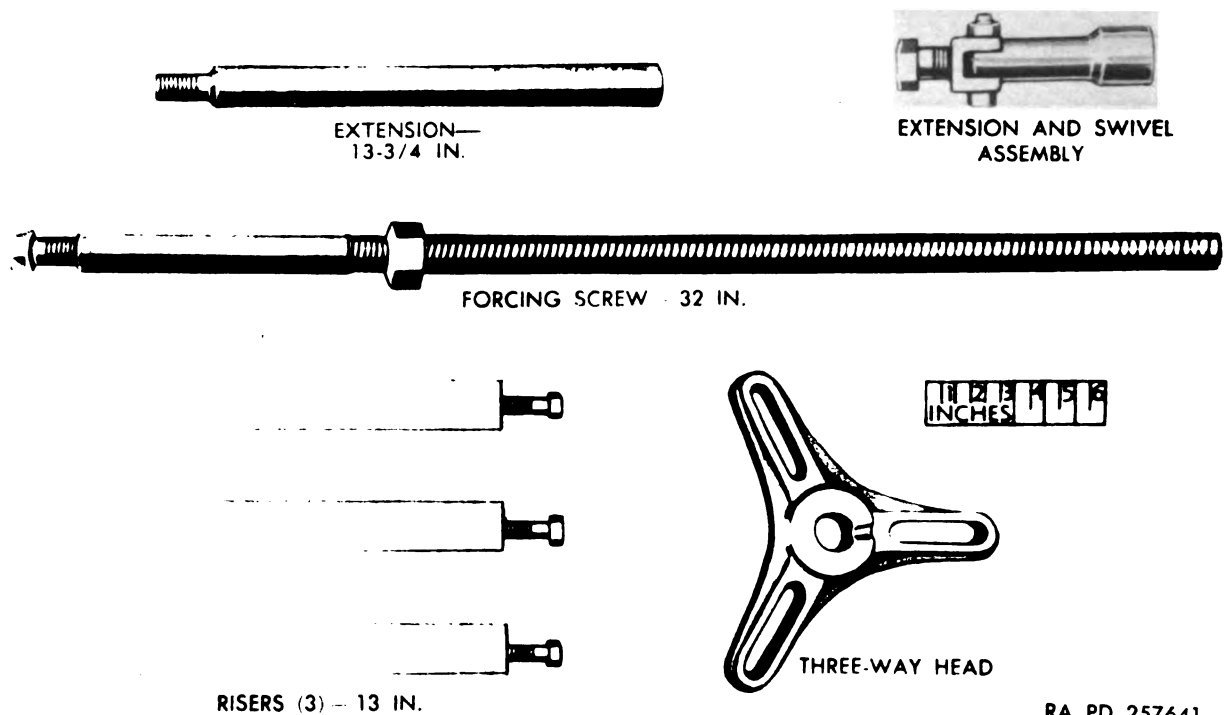
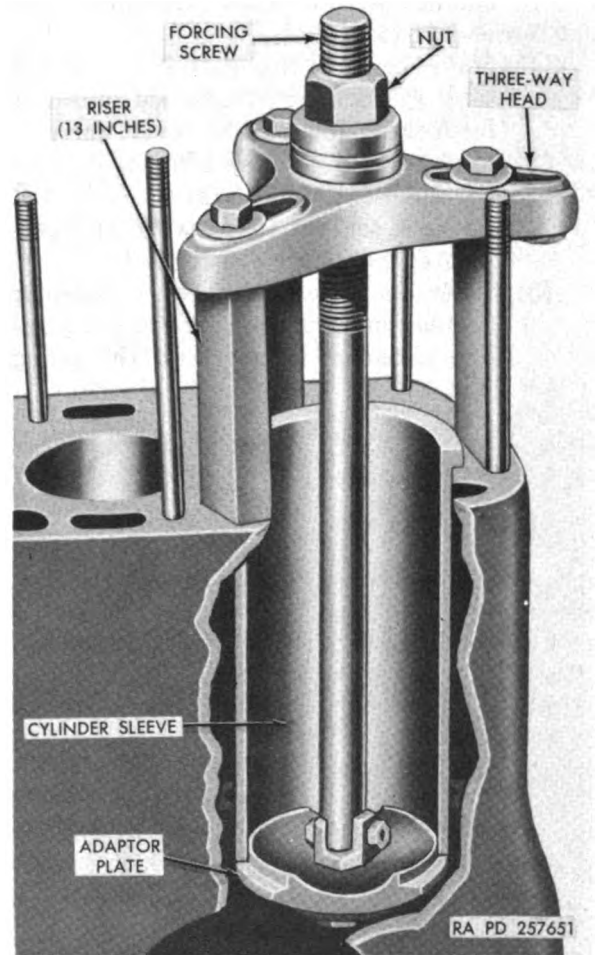

Figure 171. Cylinder sleeve puller.
Figure 181. Using cylinder sleeve puller.
(9) *Cylinder sleeve puller.* The universal cylinder sleeve puller (fig. 171) will pull the cylinder sleeves on more than 200 makes and models of trucks and tractors. It is adjustable to provide clearance regardless of the position of the cylinder studs and to simplify centering the tool over the bore. This puller is used in conjunction with four adapter plates (fig. 181) supplied with the puller. The combination is capable of pulling cylinder sleeves $4\frac{1}{4}$, $4\frac{1}{2}$, $4\frac{3}{4}$, and $5\frac{3}{4}$ inches in diameter.
f. Cylinder Sleeve Puller. The cylinder sleeve puller (fig. 171) is adjustable to provide clearance regardless of the number or position of the cylinder head studs, and to accurately center the tool over the bore (fig. 181). Four adapter plates are supplied with the puller which cover sleeves from $4\frac{1}{4}$ to $5\frac{3}{4}$ inches in diameter. The adapter is positioned so that the cylinder sleeve rests on the edges of the adapter. The puller swivel assembly is inserted from the top and screwed into the adapter. By tightening the forcing screw (use suitable wrench on nut) a steady force is applied which will pull the sleeve out of the cylinder.